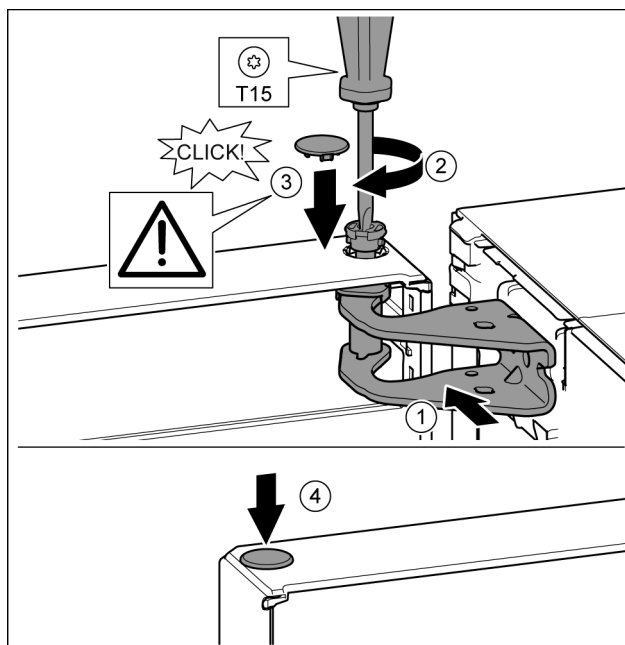

Fig. 23
- Align the top of the door with opening in the bearing bracket. Fig. 23 (1)
- Insert the bolt and tighten with a T15 screwdriver. Fig. 23 (2)
- Fit the protective cover to protect the door: Insert the protective cover and check that it is attached to the door. If not, insert the bolt fully. Fig. 23 (3)
- Insert the plugs. Fig. 23 (4)